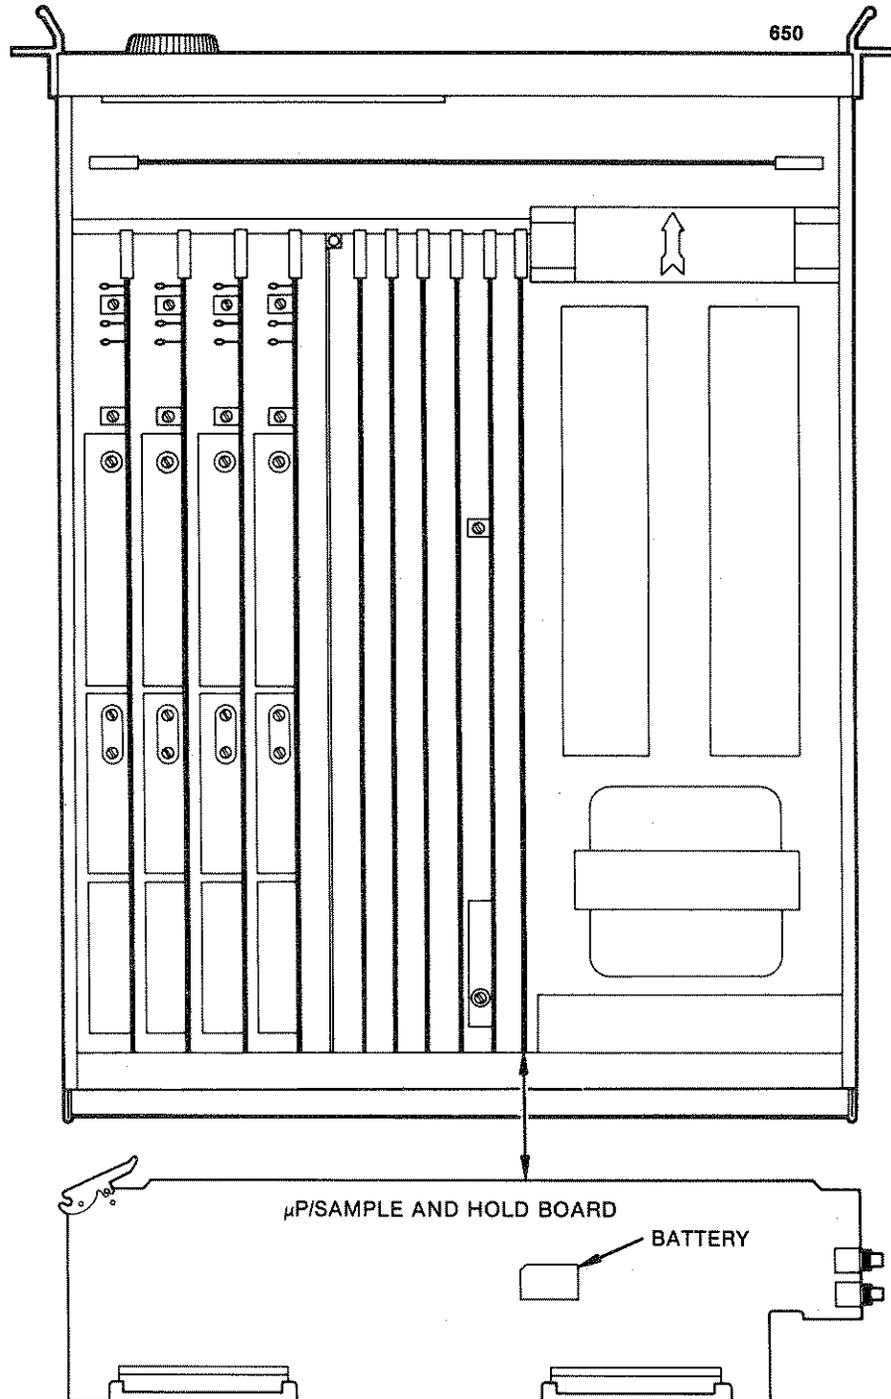

Figure 2-4. Lithium Battery Location
7. Remove the μ P/Sample and Hold board (see figure 2-4).
8. Locate the lithium battery (see figure 2-4).